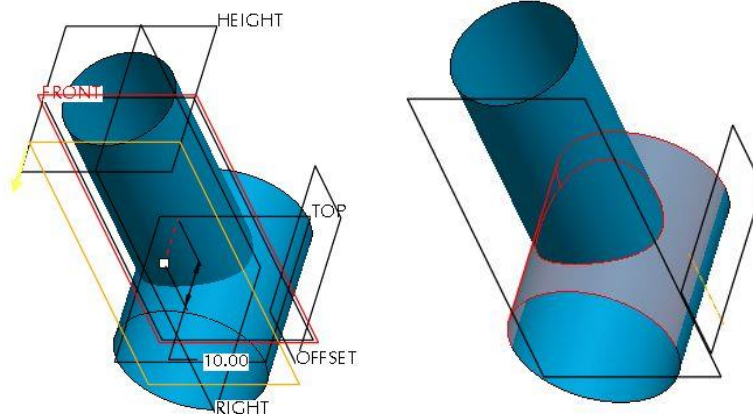

Figure 11 – Datum Axis “Hole1”
- Select datum plane **Offset** and then start the datum **Axis** tool . Move the Datum Axis dialog box as necessary and start the datum **Plane** tool . Select datum plane **FRONT** and drag the drag handle to a forward offset of **10**, as shown Figure 11. Click **OK** to close the Datum Plane dialog box. Select the **Display** tab, click the **Adjust Outline** button, and select **Reference** from the drop-down list. Select the upper cylindrical surface of **Extrude 2** as the reference. Select the **Properties** tab. Edit the name to **Hole1** and click **OK**.